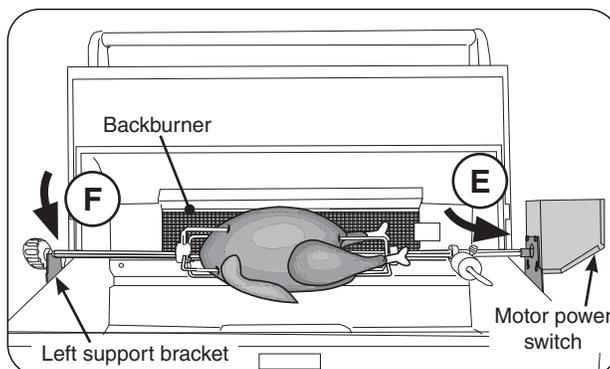

Fig. 33-4 Attach Rotisserie rod to motor
10. Insert the pointed-end of the rod into the motor drive socket (see Fig. 33-4, E). Then rest rod groove (next to the knob) into the left support bracket (see Fig. 33-4, F).